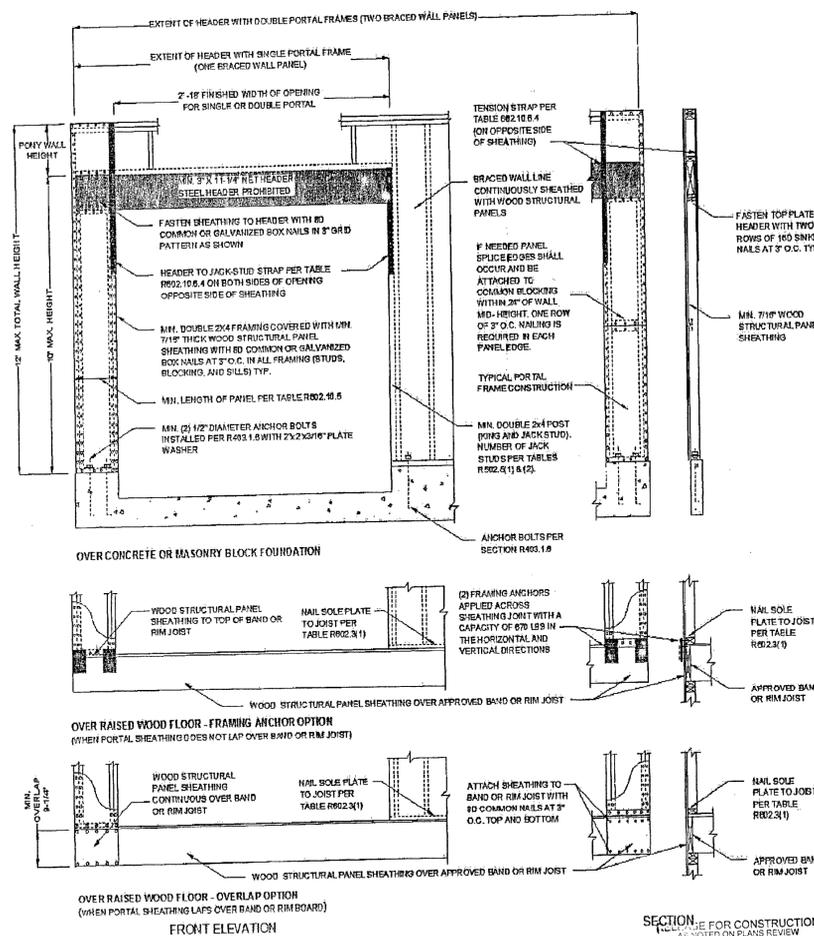

FIGURE R602.10.6.4
c. Maximum header height for PFH is 10 feet in accordance with Figure R602.10.6.2, but wall height may be increased to 12 feet with pony wall.
d. Maximum opening height for PFH is 10 feet in accordance with Figure R602.10.6.3, but wall height may be increased to 12 feet with pony wall.